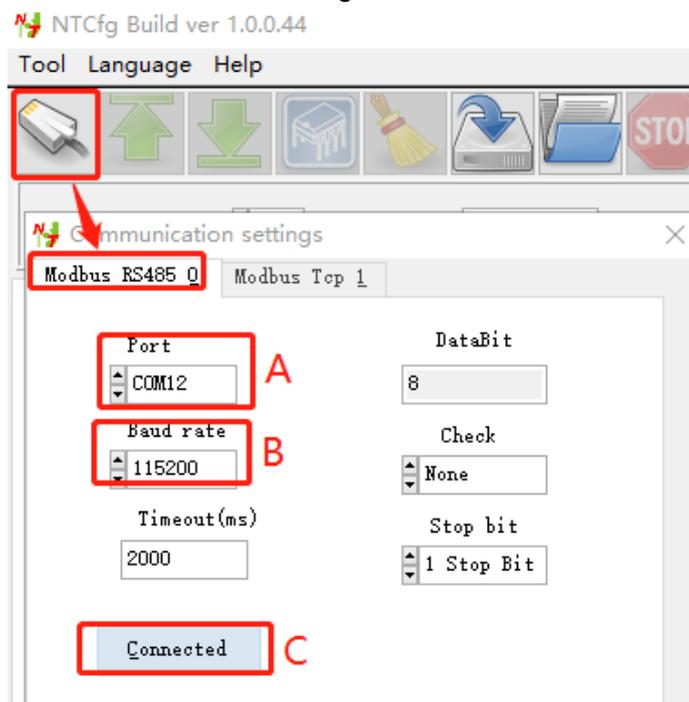

Figure2-2
① Language: NTConfigurator software language supports Chinese (Simplified) and English (US), and the two languages can be switched. It should be noted that the software needs to be restarted each time the language is switched to take effect.
② Communication settings: The communication settings are shown in Figure2-2. Select "Modbus RS485" for the communication setting of NT60. The corresponding port at A can be viewed through "Computer-Properties-Device Manager", and the baud rate set at B refers to the driver silkscreen. After setting A and B, click on C to connect.